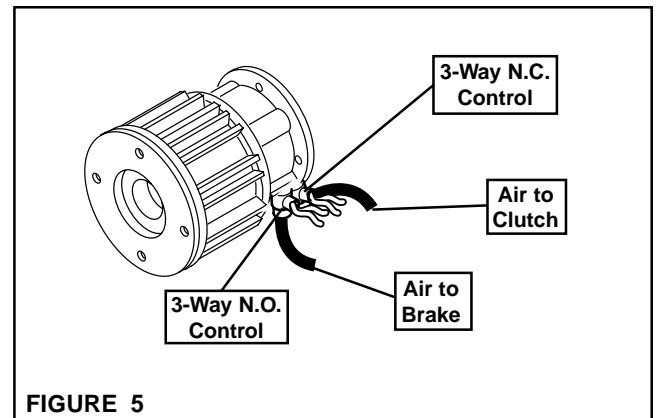

FIGURE 5
1. Install a 3-Way N.O. Control into the brake inlet port and a 3-Way N.C. Control into the clutch inlet port (See Figure 5).
2. Connect an air supply line to the inlet port (marked **IN**) on top of the 3-Way N.O. Control and an air supply line to the inlet port (marked **IN**) on the side of the 3-Way N.C. Control (See Figure 5).